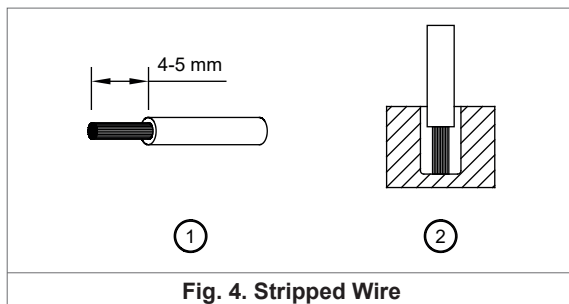

Fig. 4. Stripped Wire
**Note (2): Terminal Block Connector**
To secure reliable and shock proof connections, the stripping length should be 4-5mm (see Fig. 4, ①). Please ensure that the wires are fully inserted into the connecting terminals as shown in Fig. 4, ②. All wire strands must be fully inserted into the terminals with the screws securely fastened in order to ensure safety and maximum contact.